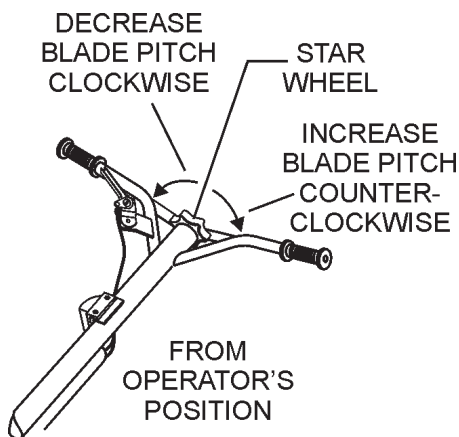

Figure 28. Standard Handle
1. To pitch the blades upwards using the "**Standard**" handle, (Figure 28) simply turn the **star-wheel** clockwise. Turning the star wheel counter clockwise will cause the blades to lay flat.